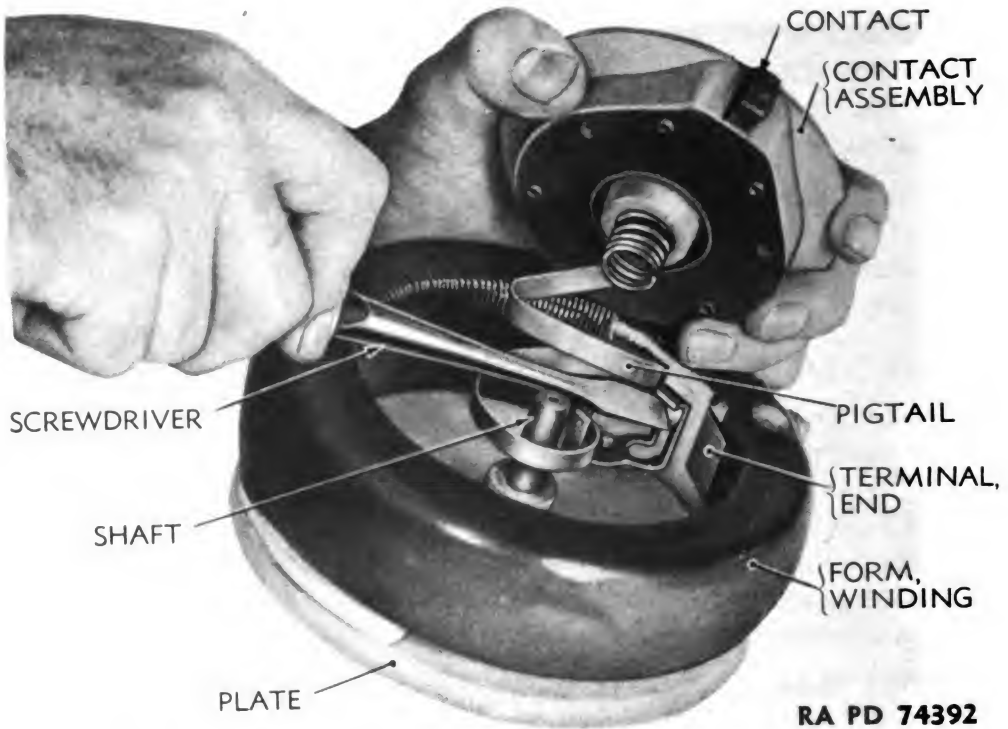

Figure 224 – Contact Assembly Removal
(2) Lift up contact assembly, and remove screw attaching lug on end of pigtail to the winding form (fig. 224). Remove contact assembly and pigtail from the winding form.